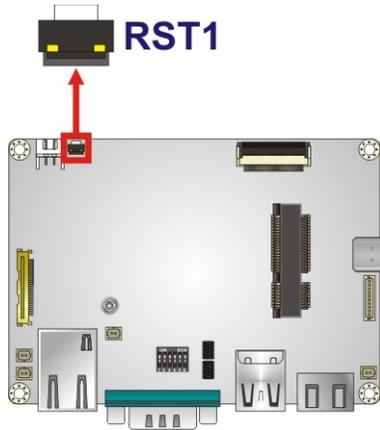

Figure 3-15: Reset Button Location
- CN Location:** See **Figure 3-15**